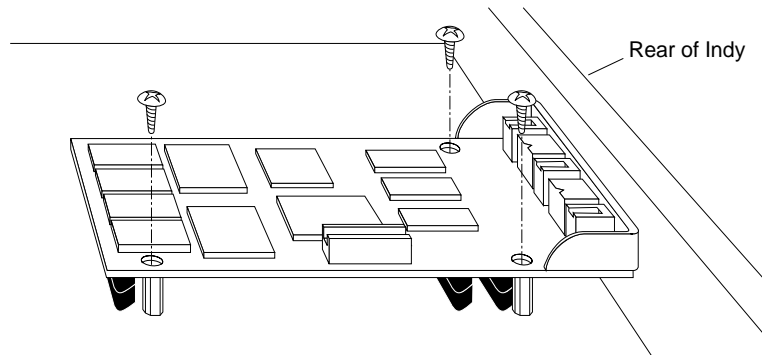
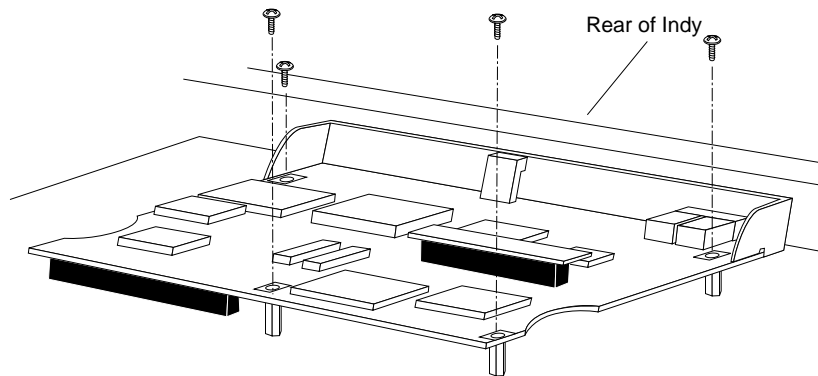

Figure 8-5 Removing the Screws From a Single-Width GIO Option Board
Figure 8-6 Removing the Screws From a Double-Width GIO Option Board
- Using a phillips screwdriver, remove the screws that connect the GIO option board to the graphics board. Figure 8-5 shows a single-width board. Figure 8-6 shows a double-width board.